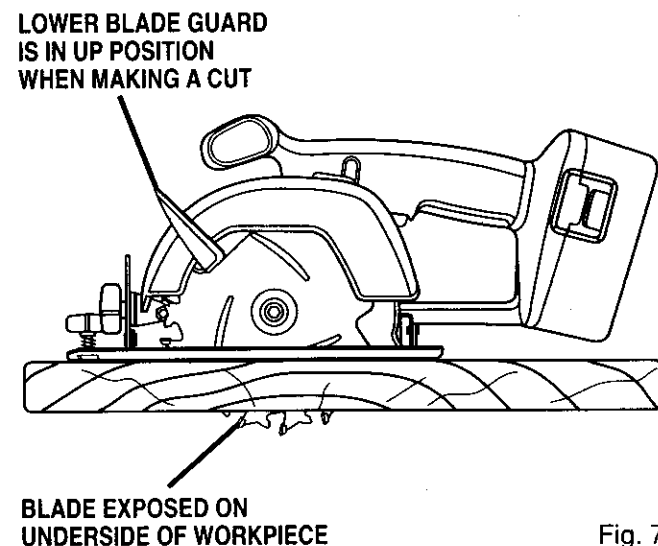

Fig. 7
- ▲ **DANGER:** When sawing through workpiece, lower blade guard does not cover blade on the underside of workpiece. Since blade is exposed on underside of workpiece, keep hands and fingers away from cutting area. Any part of your body coming in contact with moving blade will result in serious injury. *See Figure 7.*